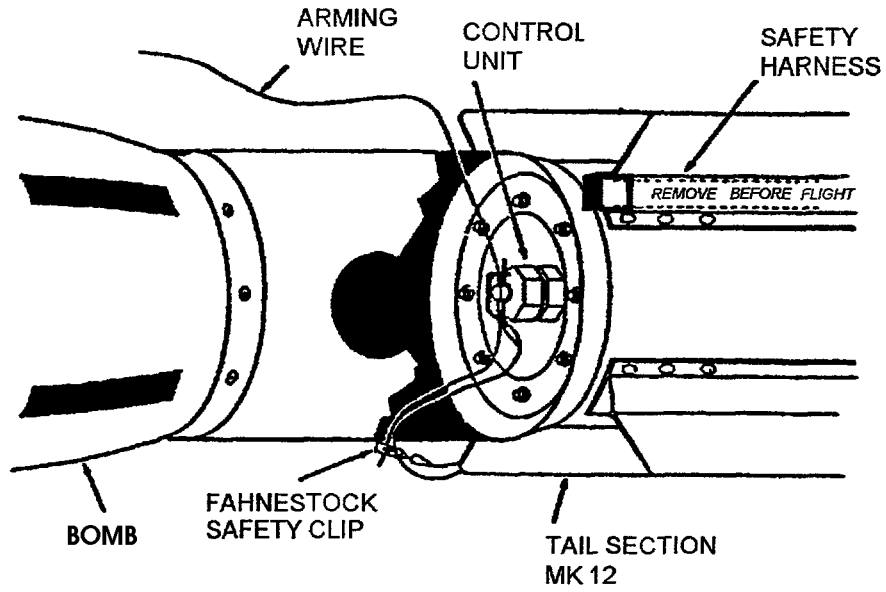

Figure 4-12E. Tail Section Mk 12 Control Unit Arming Wire Installation
- (2) Pass the straight end of arming wire through the 3/4-inch hole in tail section directly above the control unit. Pass the wire through the vacant hole in control unit, then pass it through the 3/4-inch hole in tail section directly below control unit. Take care not to tangle arming wire with cable attached to warning streamer (Figure 4-12E).